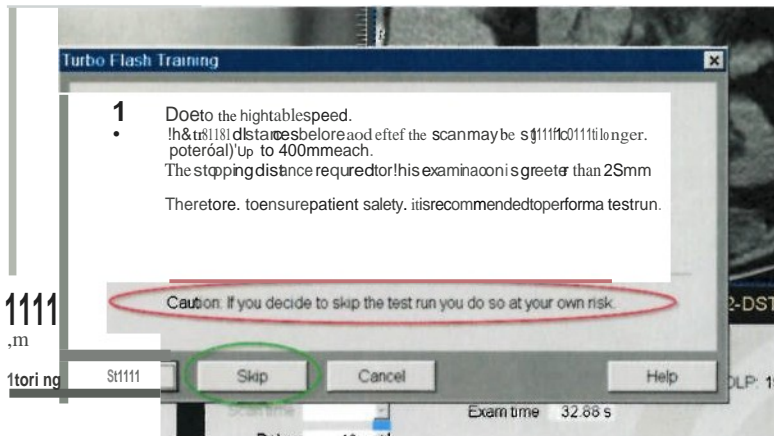

Fig . 2 : Table test dialogue with warning if skipped
- b. The table test move is not a must and can be skipped. If this workaround is chosen, the operator must be particularly cautious and make sure that there are no obstacles in the way of the table top movement. The high table top speed during such examinations makes it impossible to stop the movement within the usually required 25 mm. The travel distance before and after the scan may be up to 400 mm. The corresponding dialog is shown in Fig. 2 below.